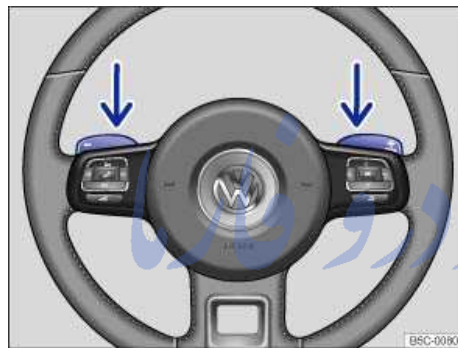

Fig. 121 Steering wheel with Tiptronic shift paddles (if equipped).
- The paddles ⇒ fig. 121 (arrows) work when the selector lever is in the Tiptronic position or when the selector lever is in Drive (D) or Sport Drive (S). You do not have to move the selector lever over to the right into the Tiptronic position.